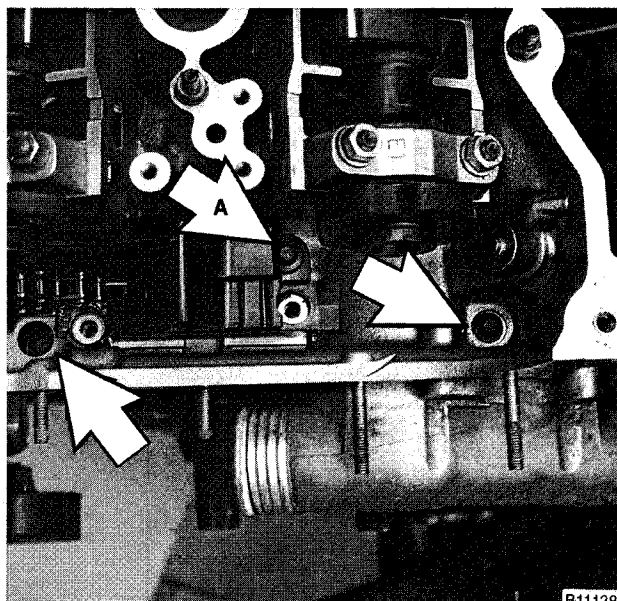

Fig. 39. Cylinder head-to-timing chain cover mounting bolts (arrows). (Bolt A also retains secondary chain tensioner.)
34. Remove two mounting bolts holding cylinder head to lower timing chain cover (Torx E8 socket). See Fig. 39.